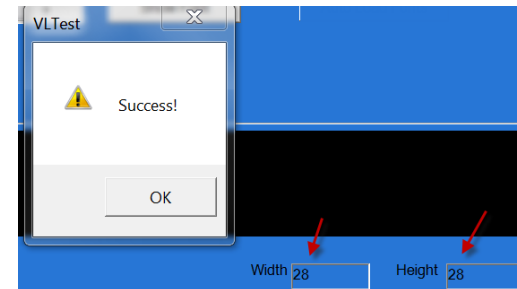

Figure 88
5. After about 30 seconds, as shown in Figure 88, a ‘*Success!*’ message should be displayed.